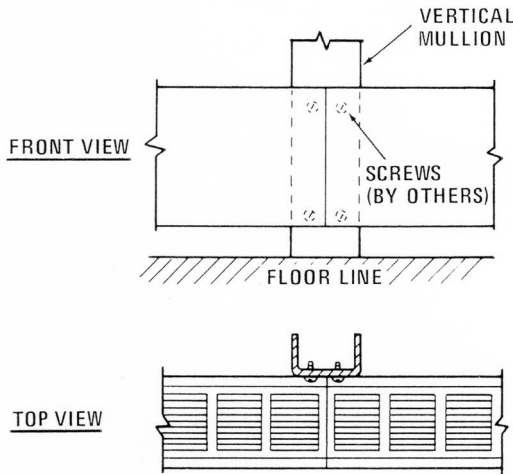

Figure 7
1. Attach the housing to the mullion using the mounting holes provided in the junction boxes as shown in Figure 7.